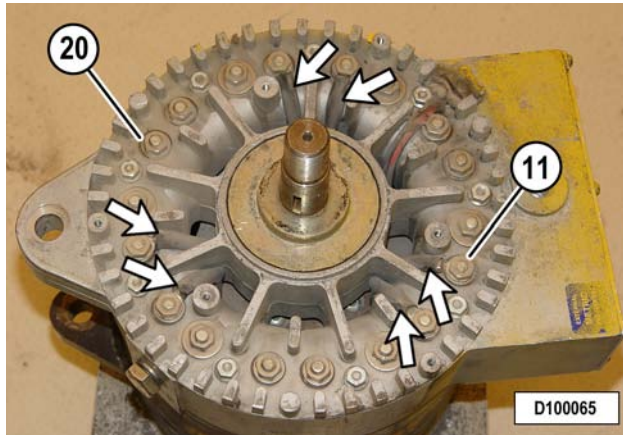
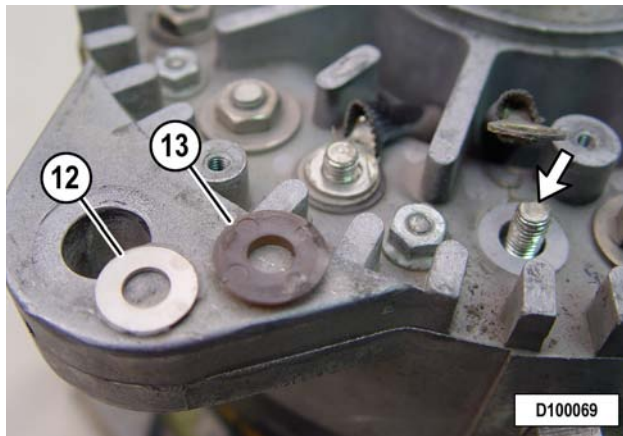

FIGURE 10-54.
FIGURE 10-55.
4. Remove six hex jam nuts (11, Figure 10-54) using an 11 mm socket. Remove the phase leads from the terminals. If necessary, remove flat washers (12, Figure 10-55) and insulators (13).